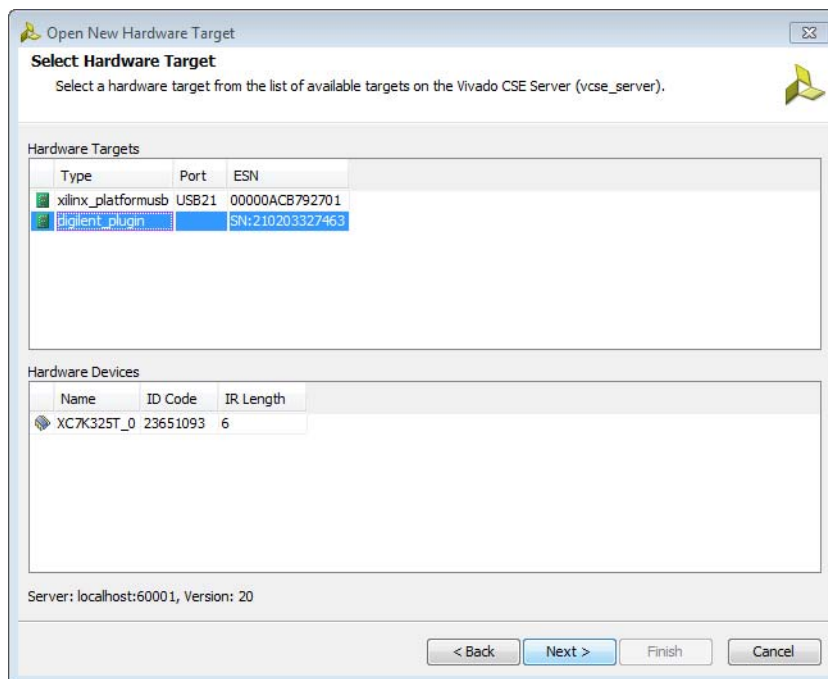

Figure 2-5: Selecting the Hardware Target
2. Select the appropriate hardware target from the list of targets that are managed by the hardware server. Note that when you select a target, you will see the various hardware devices that are available on that hardware target (see Figure 2-5).